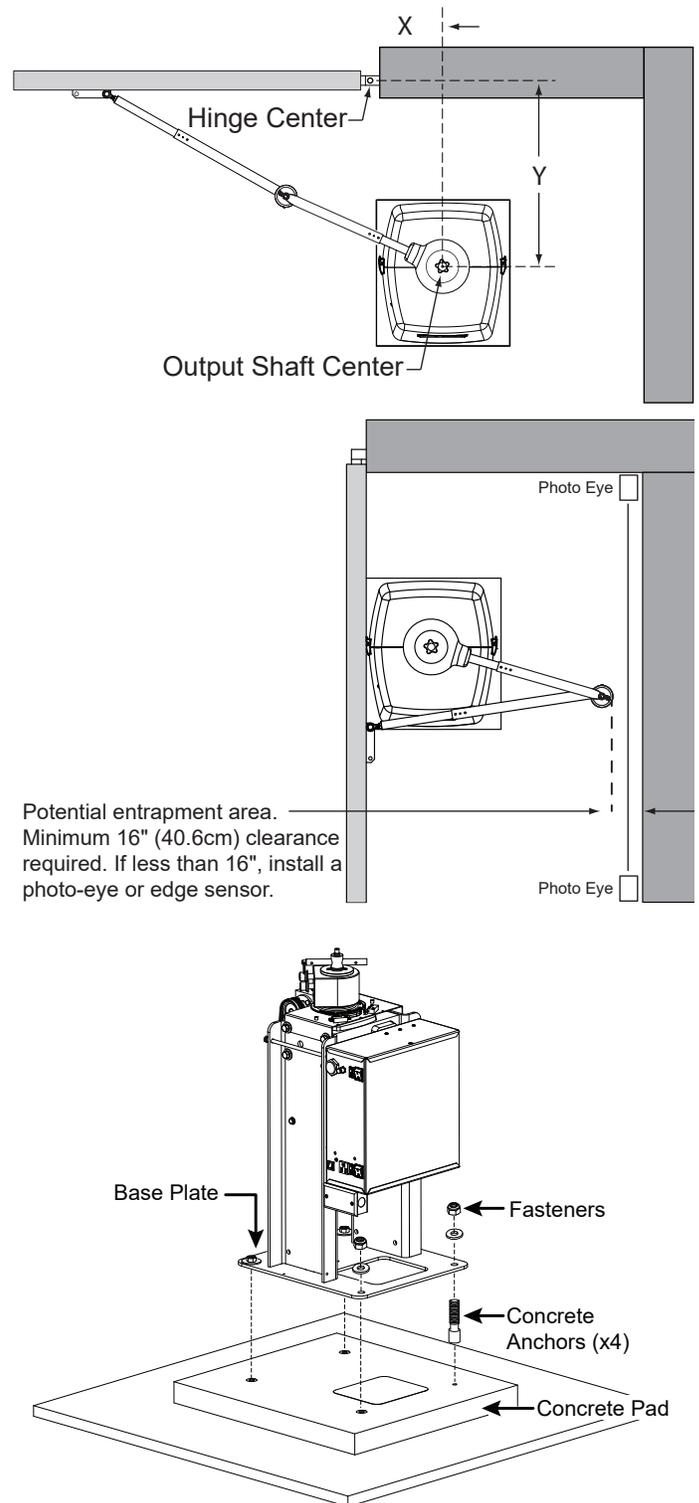

Figure 5. Mounting Operator
2. Before placing the operator on the pad, measure and mark the output shaft center on the concrete pad by selecting the X and Y dimensions. Refer to Figure 5.
4. Mount the operator with four $\frac{1}{2} \times 3\frac{1}{2}$ -inch concrete anchors as shown in Figure 5.